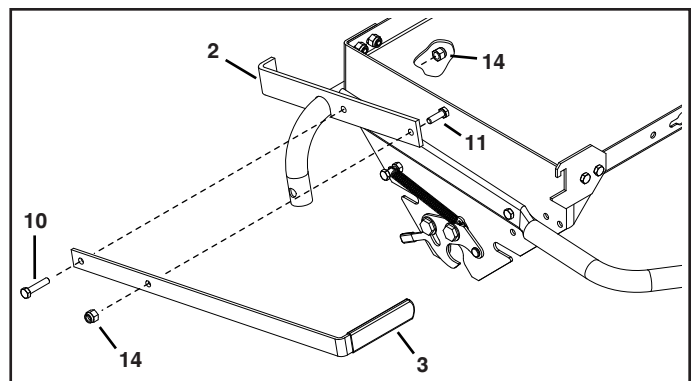

FIGURE 4
9. Attach the lift tube assembly (2) and the lift handle (3) to the rear hole on the right side of the tray using a 5/16 x 1-1/2" hex bolt (10) and 5/16" nylock nut (14). **Tighten** the nut then loosen 1/2 turn. See figure 4.
10. Secure the top hole of the lift handle to the top hole of the lift tube assembly with a 5/16" x 1" hex bolt (11) and 5/16" nylock nut (14). **Tighten.** See figure 4.